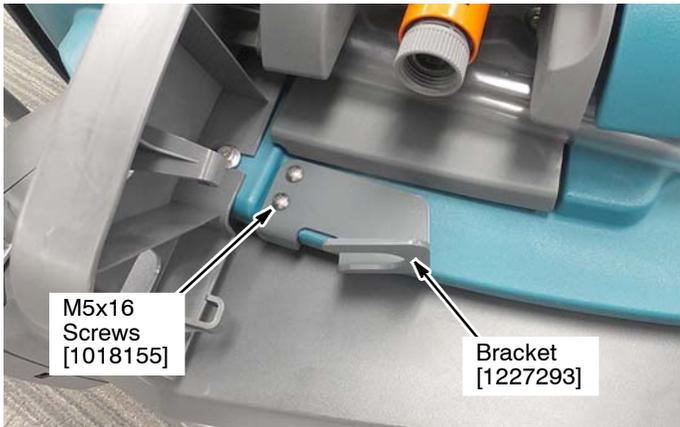

Fig. 13
- Using the two thread cutting screws, install the spray nozzle hanger bracket below the right side accessory rail as shown (Figure 13).